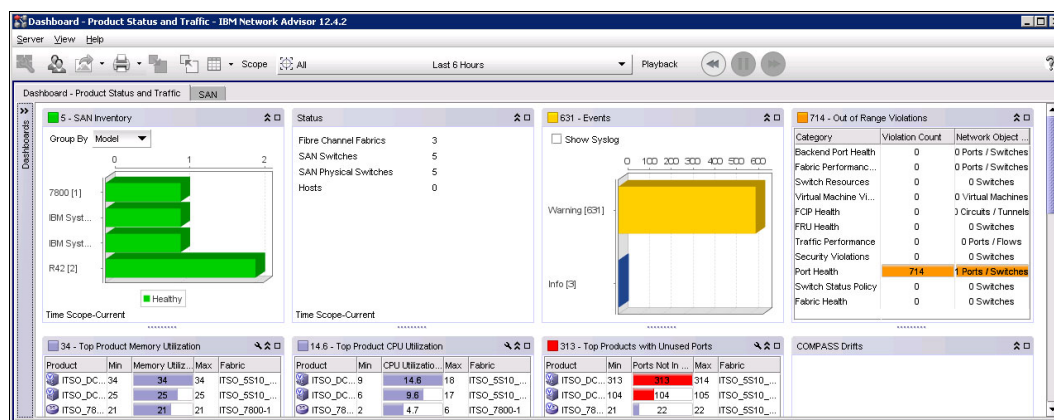

Figure 12-8 MAPS Dashboard
2. Click the Dashboard tab to display the dashboard as shown in Figure 12-8.